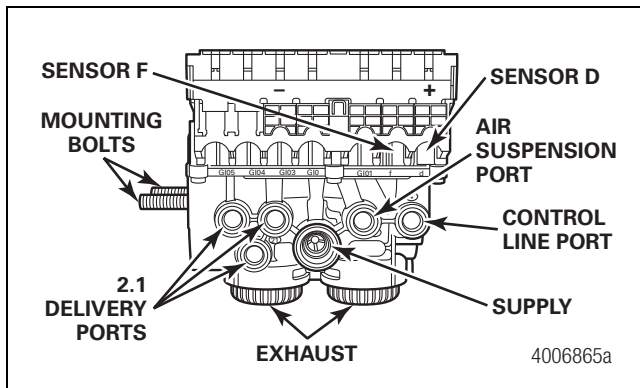
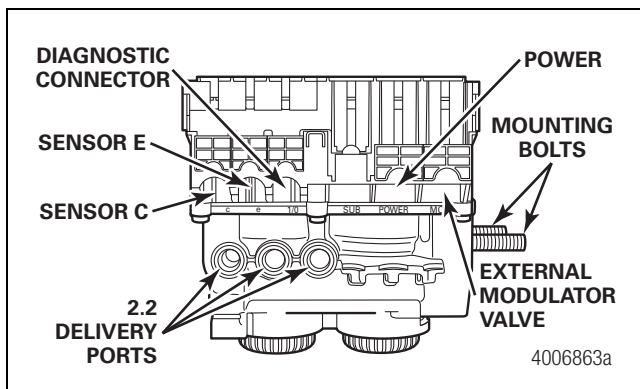
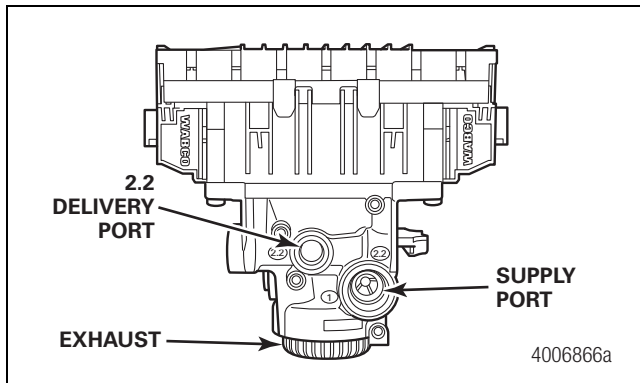

Figure 1
Figure 2
Figure 3
The valve portion of the Electronic Control Unit (ECU)/dual modulator valve assembly contains two separate modulator valves. Each valve has its own delivery ports, three per valve. Therefore, the mounting orientation — whether the valve is mounted with the sensors facing the front or the rear of the trailer — determines sensor hookup. Figure 1, Figure 2 and Figure 3.
2. Connect air delivery lines to the ECU valve assembly. The ports labeled 2.1 and 2.2 are 3/8-inch NPTF. Refer to Figure 1, Figure 2 and Figure 3 for ECU valve port assignments.